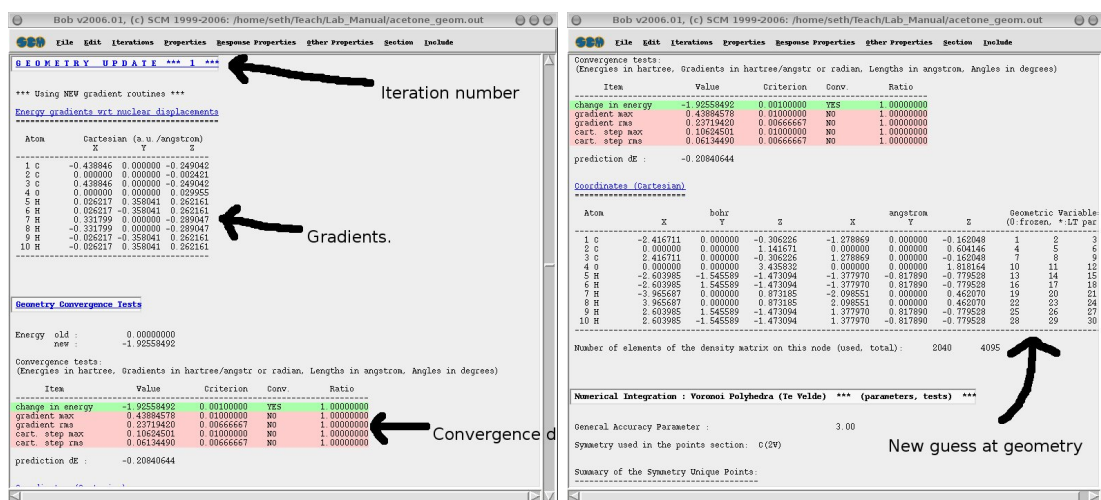

Figure 4.5: Geometry iteration data.
**Exercise 4.6** Consider your geometry optimization calculation of  $N_2$ . Look at the detailed output file using the *SCM:Output* program. To look at the geometry steps of the calculation select the *Geometry Cycles* option from the *Iterations* menu of the OUTPUT program. Doing so will put you at the results of the first geometry step. The information presented includes the gradients of the energy with respect to nuclear movements, the energy of the current geometry and the previous geometry, the new geometry predicted from the information known and the convergence information (see figure 4.5). The convergence information includes “Item” (what we are considering), “Value” (the value of that item), “Criterion” (what Value needs to be less than for this item to be converged) “Conv” (Whether Value is less than Criterion or not) and “Ratio” (the ratio of Value from the current iteration divided by Value from the previous iteration. This gives an idea of whether you are getting closer to convergence or not). When all of the Conv are YES your calculation is converged.